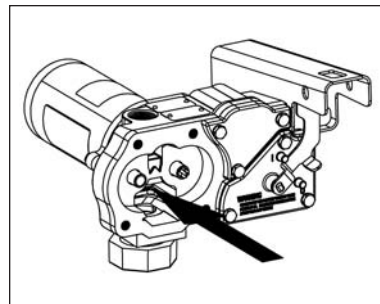

Figure 9
- b. Push down on the poppet until the poppet O-ring is exposed inside the housing. (Figure 9)